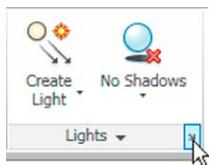
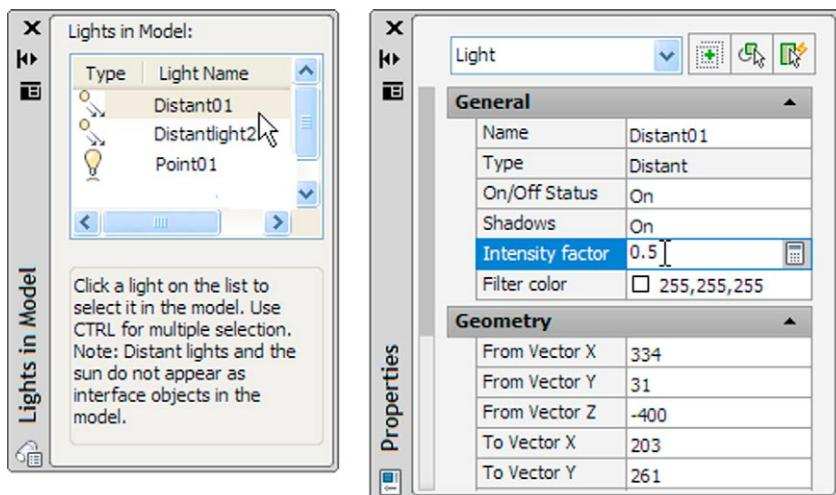

Fig. 15.24 The arrow at the bottom of the **Render/Lights** panel
Fig. 15.25 The **Lights in Model** and **Properties** palettes
7. When the model has been rendered if a light requires to be changed in intensity, shadow, position or colour, *click* the arrow at the bottom right-hand corner of the **Render/Lights** panel (Fig. 15.24) and the **Lights in Model** palette appears (Fig. 15.25). *Double-click* a light name in the palette and the **Properties** palette for the elected light appears into which modifications can be made (Fig. 15.25). Amendments can be made as thought necessary.